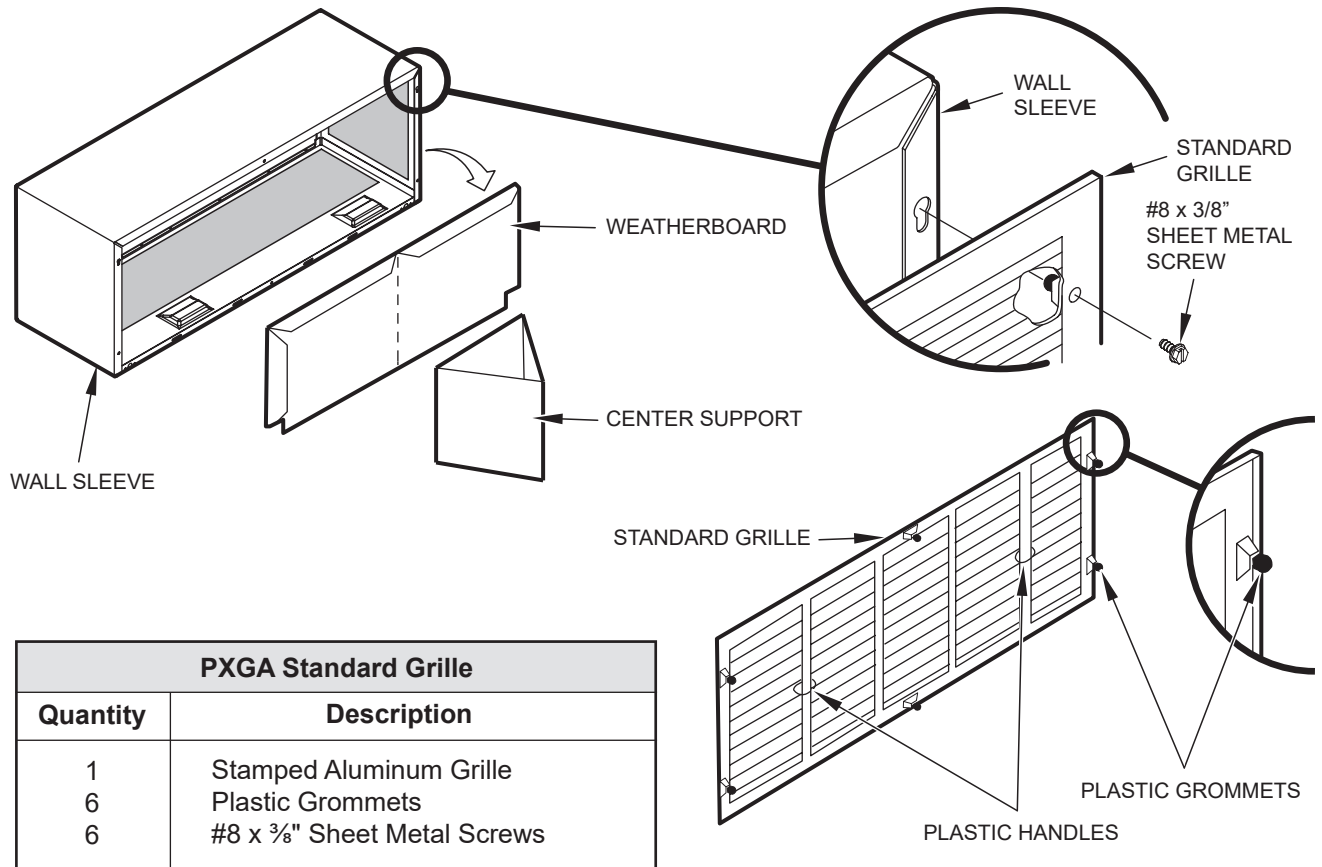

Figure C.4.4 Standard Grille Instructions
3. If the chassis and exterior grille are to be installed later, leave the weatherboard and center support in place, otherwise remove and dispose of them. (See Figure C.4.4).
2. Insert six plastic grommets into the grille openings from the outside of the grille as shown in Figure C.4.4.